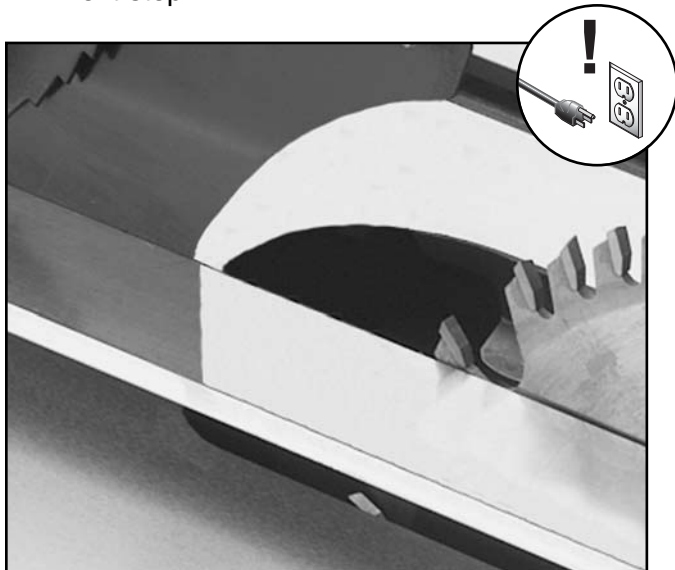

Figure 39. Checking alignment of blade guard.
- Next, set a straightedge against the face of the saw blade and the blade guard/splitter as shown in **Figure 39**. If the blade guard/splitter is properly aligned, please skip ahead to the next section; otherwise, continue with the next step.